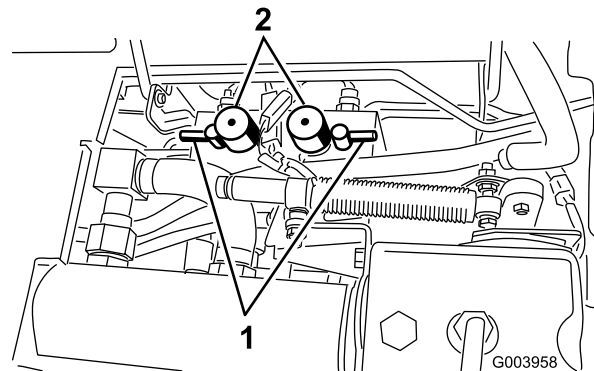

Figure 85
5. Set both reel speed controls to position 1 (Figure 85).
6. Select either front, rear or both backlap levers to determine which units to backlap (Figure 85).